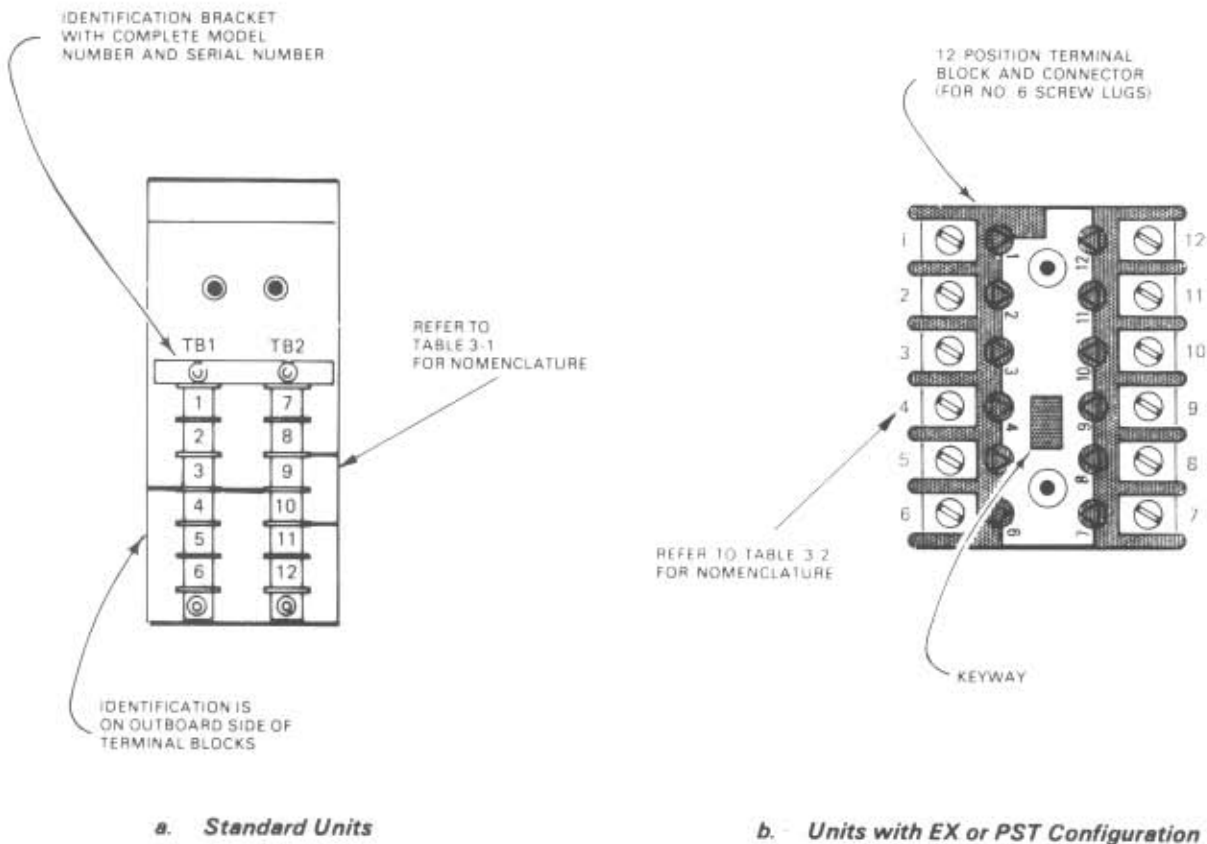

Figure 3-12. Terminal Strips and Terminal Blocks Identification
3. Numbers in () refer to terminal block connector (see Figure 3.12).
Wiring Information for All Standard Units With Terminal Strips and Blocks. Standard units with terminal strips or terminal blocks have terminals supplied with 6-32 screws long enough to easily accommodate three spade-lug connectors. Standard units with snap-off plastic covers have an opening in the bottom of the cover. Dress all wiring to and from the terminals through this opening. Spade lug connectors are recommended for all wire terminations. Figure 3-12 illustrates the
Options (Note 1)	Terminal Positions (See Figure 3-12)